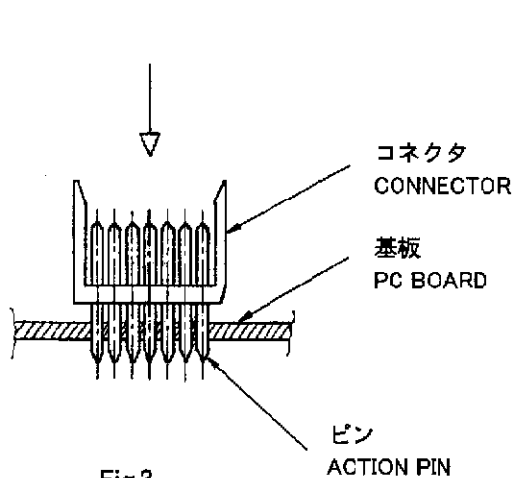

Fig.3
- (2) コネクタをピンのヘッド部がPC基板の挿入位置に合わせる所に置きます。(Fig.3)
- (3) ピンのヘッド部をPC基板に手で押し込みます。
ただし、ピンのヘッド部をPC基板にいっぱい入れないで下さい。(Fig.3)
- (2) Position a Connector into a PC (Printed Circuit) Board so that the Pin's head of Connector are properly aligned to the PC Board. (Fig.3)
- (3) Insert the head of Pin into the PC Board by hand, but not fully entered the PC Board. (Fig.3)